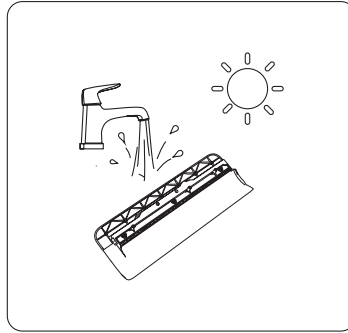

Figure 2
2. Rinse the Brush Roller Cover with clean water. (Fig. 2)